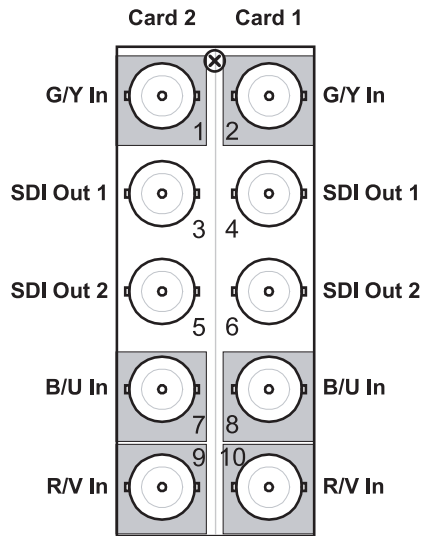

Figure 2.4 Cable Connections for the R2S-8733 Rear Module
- **R2S-8733** Split Rear Module — Each card occupies one slot and provides two SD-SDI outputs. Note that each rear module provides connections for two cards. Cable your ADC-8733A according to **Figure 2.4**.
2. Downstream SD-SDI devices connect to BNCs 3, 4, 5 and 6. If you are using the R2S-8733 Split Rear Module, connect cables according to **Figure 2.4**.